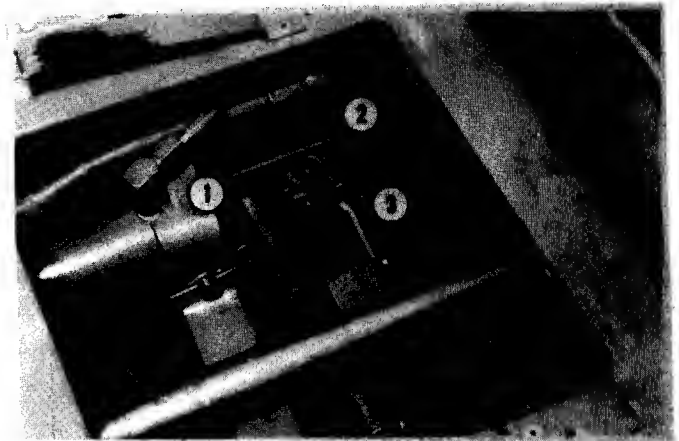

FIG. 4.28-TRANSMISSION SHIFT ADJUSTMENTS
8. Turn adjuster no. 1, Fig. 4.28 in one direction until wheels rotate then turn adjuster in opposite direction until wheels rotate in other direction. Place adjuster in center of these two turns. (This is a neutral position and wheels should not rotate)